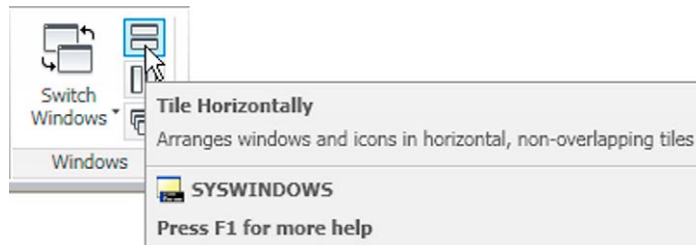
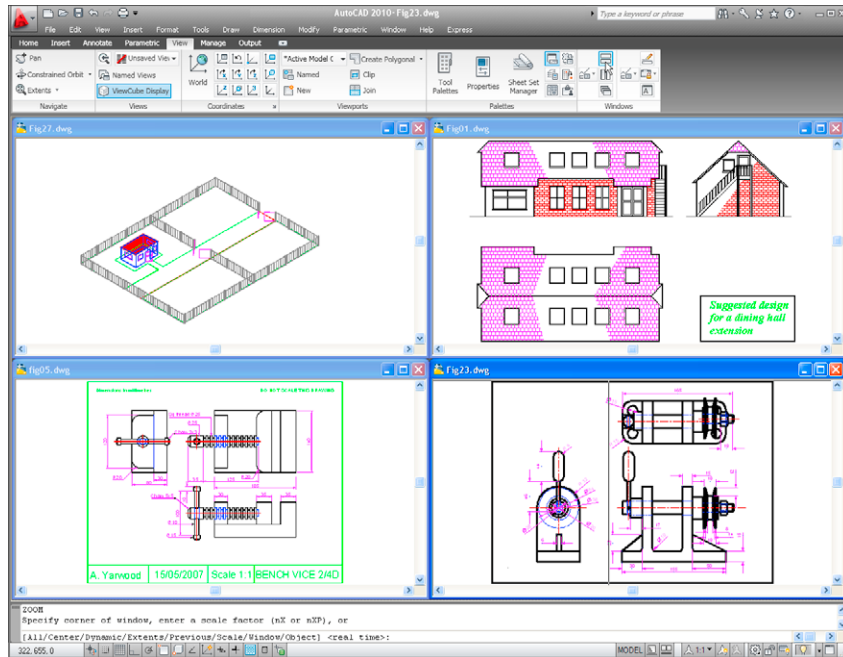

Fig. 10.23 Selecting **Tile Horizontally** from the **View/Windows** panel
Fig. 10.24 Four drawings in the Multiple Design Environment
2. In the **View/Windows** panel *click* **Tile Horizontally** (Fig. 10.23). The four drawings rearrange as shown in Fig. 10.24.